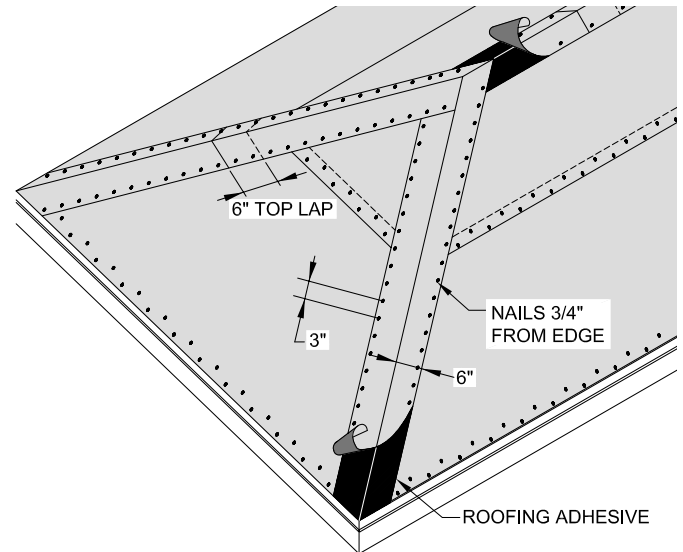

Figure 4 - Hips and Ridges: Exposed Fastener Installation
- i. Continue until the end of the hip or ridge is reached. (See **Figure 4**)